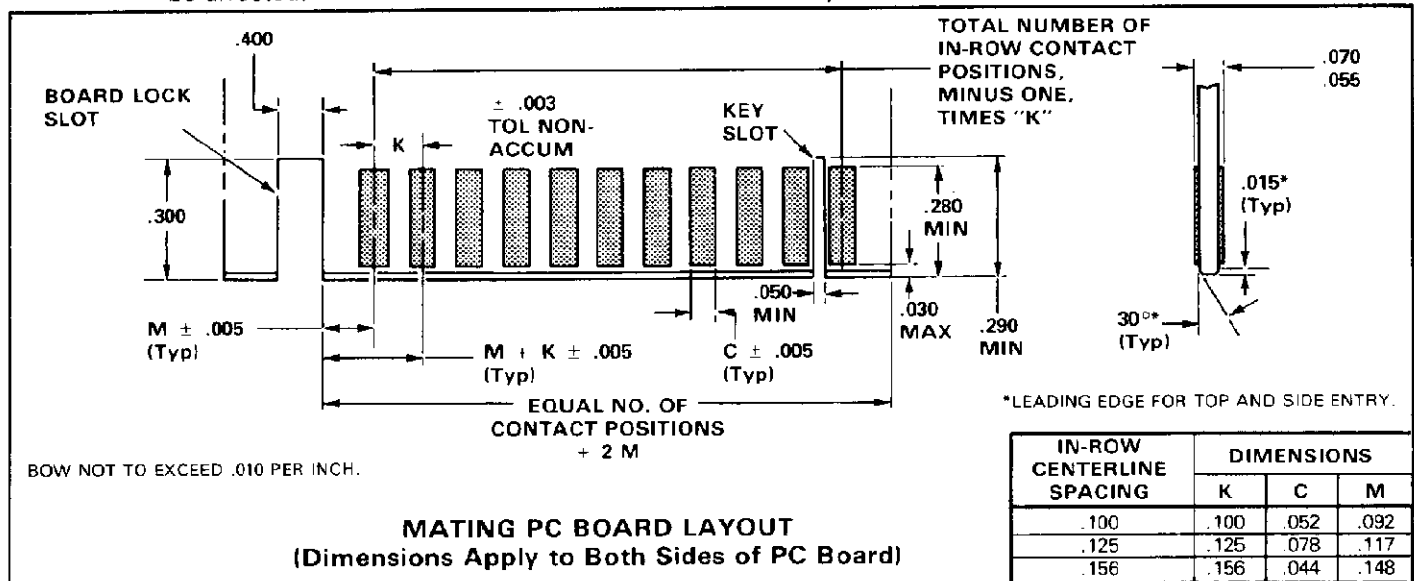

Fig. 8
5. PC BOARD LAYOUT (Figure 8)
Refer to the dimensions in Figure 8 for the mating pc board layout. Notice that cutout dimensions have been included for the board lock and keying plug features (the exact location will depend on your application).